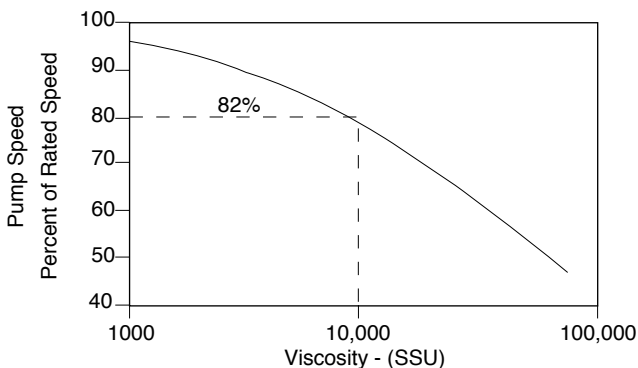

FIGURE 65. Pump Speed/Viscosity Relationship
- Figure 65 shows the relationship between pump speed and viscosity.